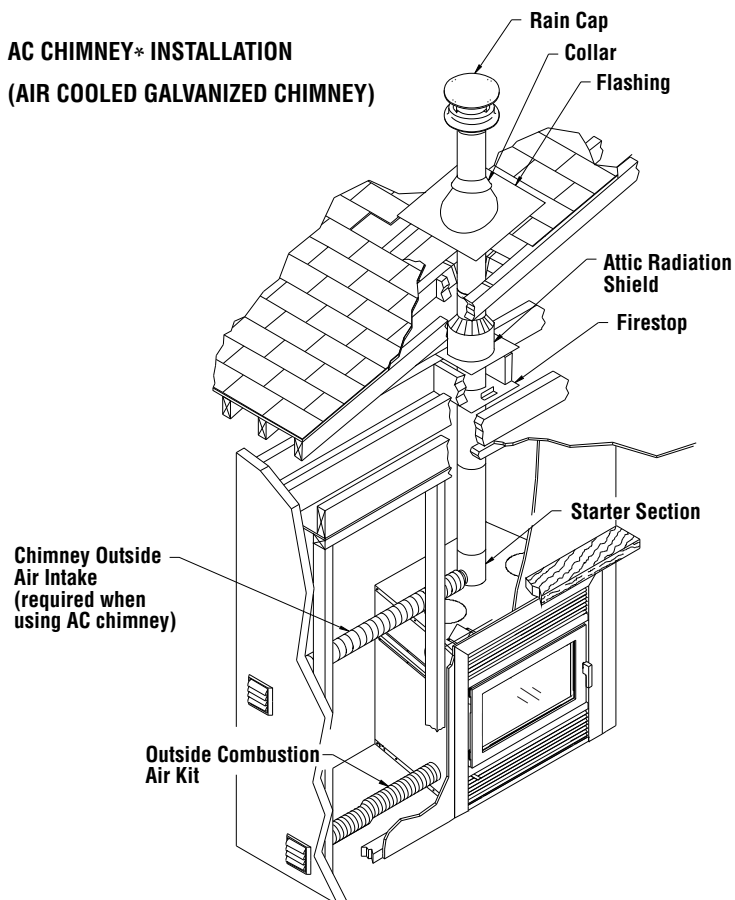

Figure 30
3. For ASHT/HT6103+ AND S2100+/HT6000+ chimneys place the first chimney length on the fireplace. To lock it in place, turn 1/4 of a turn clockwise. With the AC chimney, you must use a starter section, **AC6SB*(H3779*)** or **AC6SB30*(H3780*)**, before installing the first chimney length (**Figure 30**). Continue installing chimney lengths making sure to lock each length in place.
5. Then, put the roof flashing in place and seal the joint between the roof and the flashing with roofing pitch (see **Figures 30 and 31**). For sloping roofs, place the flashing under the upper shingles and on top of the lower shingles. Nail the flashing to the roof, using roofing nails.